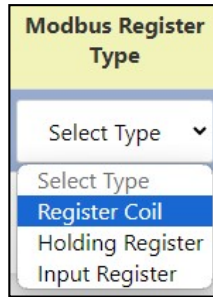

Figure 61: Drop Down menu for Modbus Register Type selection
3. **Modbus Register Type:** Select the appropriate Modbus register type from the dropdown menu (as shown in Fig 61), which defines how the sensor data is structured. The options include: